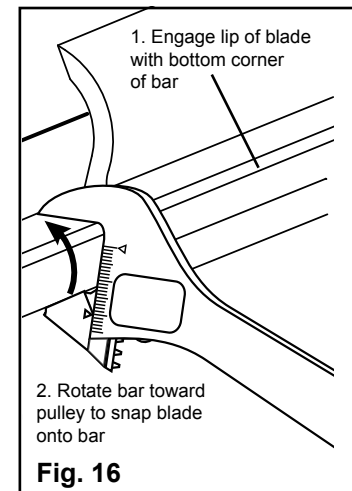

Fig. 16
3. Catch bottom lip of blade on lower front edge of belt cleaner bar (Fig. 16).